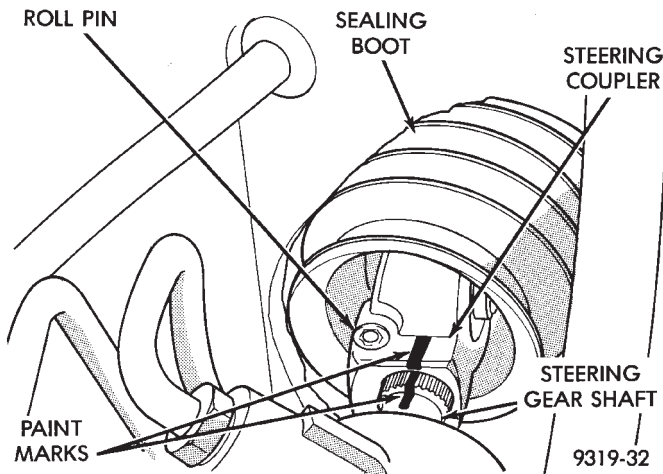
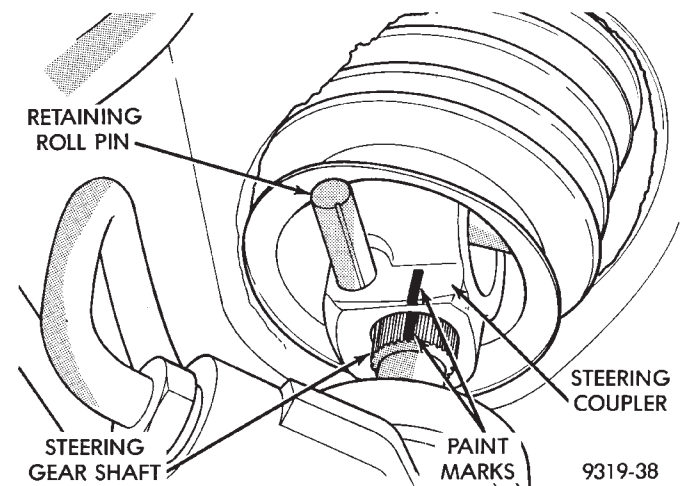

Fig. 7 Steering Gear Coupler Position For Roll Pin Removal
Fig. 14 Installing Coupler Retaining Roll Pin
(11) Remove vacuum supply hose for power brake booster at intake manifold, and position hose out of the way.
(12) Turn front wheels of vehicle to the full left turn position. Then turn wheels back until roll pin in steering coupler is accessible for removal (Fig. 7). **Then position ignition switch in lock position to keep steering column from rotating after coupler is removed from steering gear. If steering column shaft rotates beyond normal number of**
(13) Using paint mark steering coupler and steering gear shaft (Fig. 7) for orientation of parts at assembly.
(3) Align steering gear with mounting holes in crossmember. Install the 4 bolts attaching steering gear brackets and steering gear assembly to crossmember. **Be sure brake line routing clip is installed under left steering gear mounting bracket.** Torque the 4 steering gear assembly to crossmember attaching bolts to 68 N•m (50 ft. lbs.).
(4) Install the steering coupler to steering gear shaft retaining roll pin (Fig. 14). Roll pin must be installed until it is flush with top edge of steering coupler (Fig. 7).